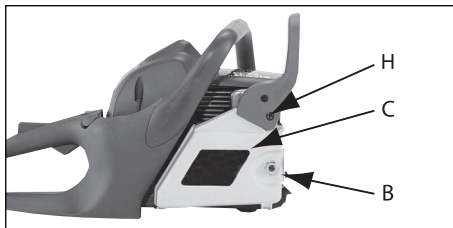

Fig. 3C
2. Remove the bar retaining nut (B) and the chain break cover screw (which is at the base towards the handle)(H). Remove the CHAIN BRAKE cover (C) by pulling straight out, some force may be required. (Fig. 3C).